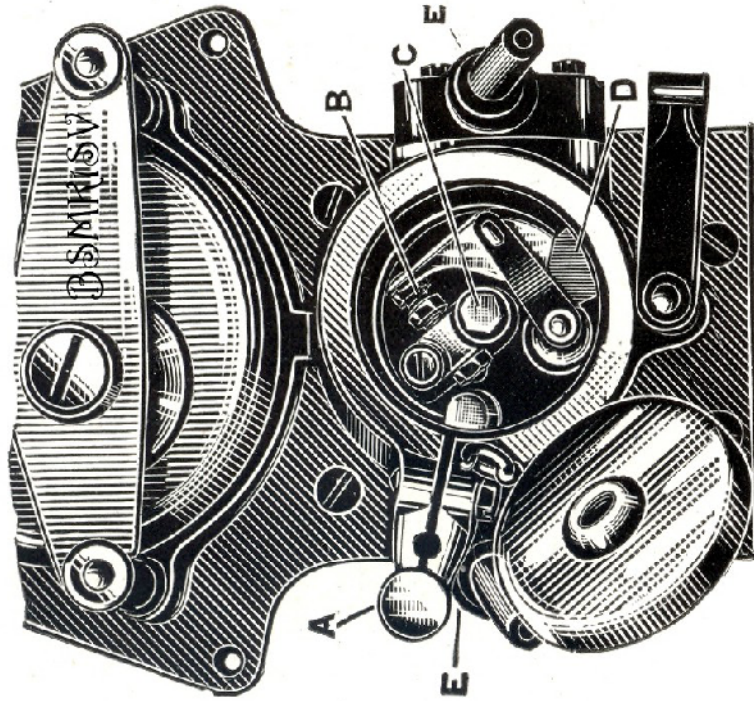

Fig. 11
5. With magnetos provided with variable ignition, the contact breaker lever A (see Fig. 11) should be moved to the fully retarded position, that is, to the limit of motion in the same direction as that in which the armature revolves.
6. Remove contact breaker cover and slightly turn the armature until the fibre block D (Fig. 11, page 15) rises on the inclined plane of the cam cage just sufficiently to separate the points B. This position is the firing point, and the magneto drive should be permanently fixed in this position.